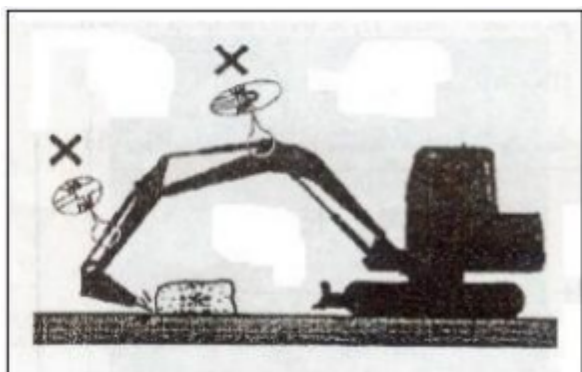

Fig 3-57
4. When operating the breaker, do not fully extend the boom and arm cylinders, see Figure 3-57. The gap between the end of the cylinder rod and the cylinder head should be kept above 50mm, so as to prevent the cylinder from being damaged when operating the breaker.